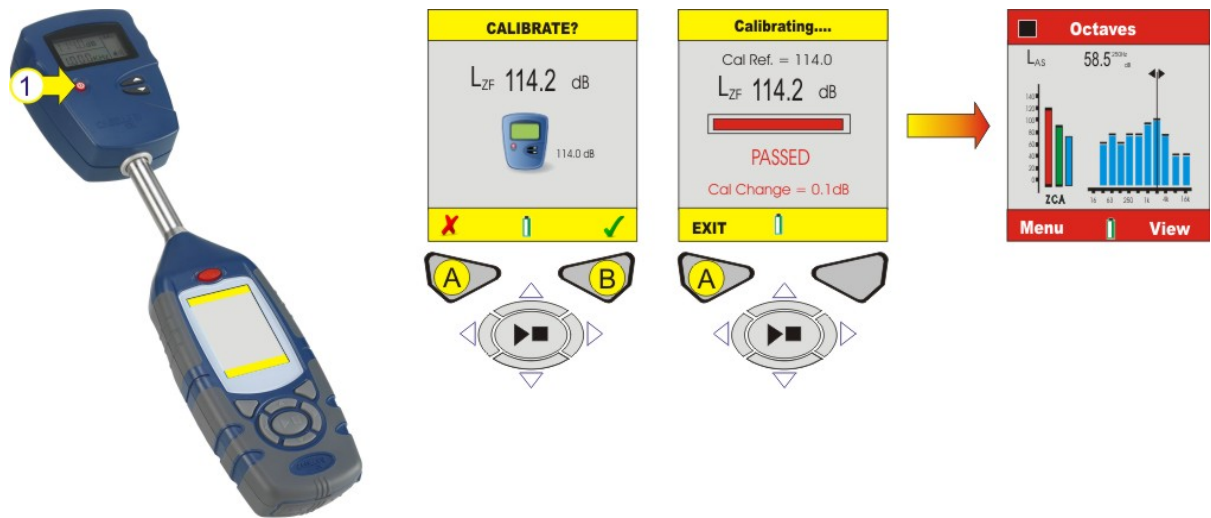

Figure 15 Instrument Calibration
**K. INSTRUMENT CALIBRATION (Refer to Figure 15)**